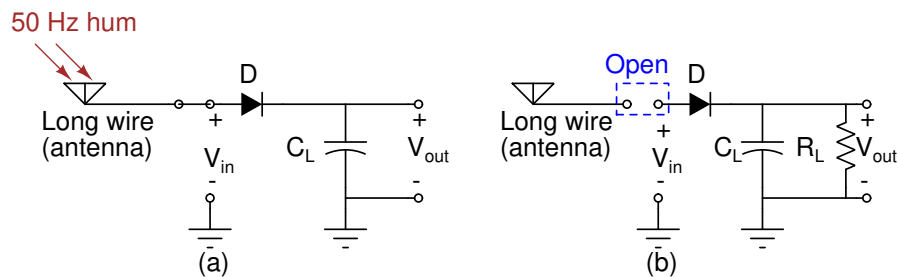

Figure 5
Can you think of building a simple energy harvester, which can convert the 50 Hz noise to generate DC voltage? Consider the scheme shown in Fig. 5(a), where a long wire is used as an antenna to capture the 50 Hz radiations present in the environment. Diode will allow
- i. As shown in Fig. 5(a), connect diode and $C_L = 100 \mu\text{F}$ first.
- v. As shown in Fig. 5(a), now connect the big wire (antenna) to the input of the circuit
- vi. Keep observing V_{out} (it should rise (**why?**)), when it reaches to 400 mV, disconnect the long wire (antenna) from the input as shown in Fig. 5(b)